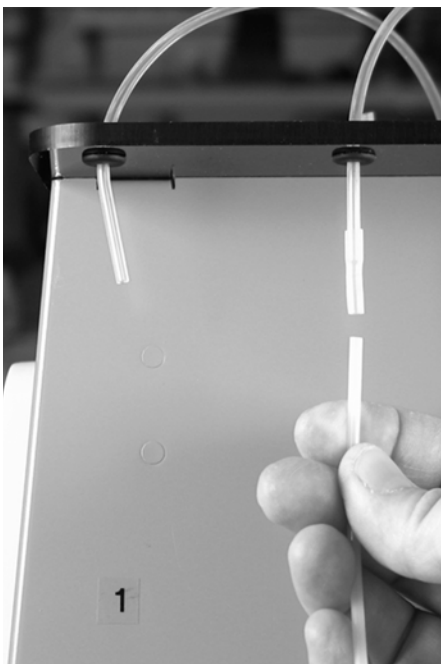

Fig. 11.6. Installing PTFE tubing into the position 2 buffer line.
4. Install the longer piece of 1/8" OD PTFE tubing by pushing one end into the silicone coupling (Figure 11.6).